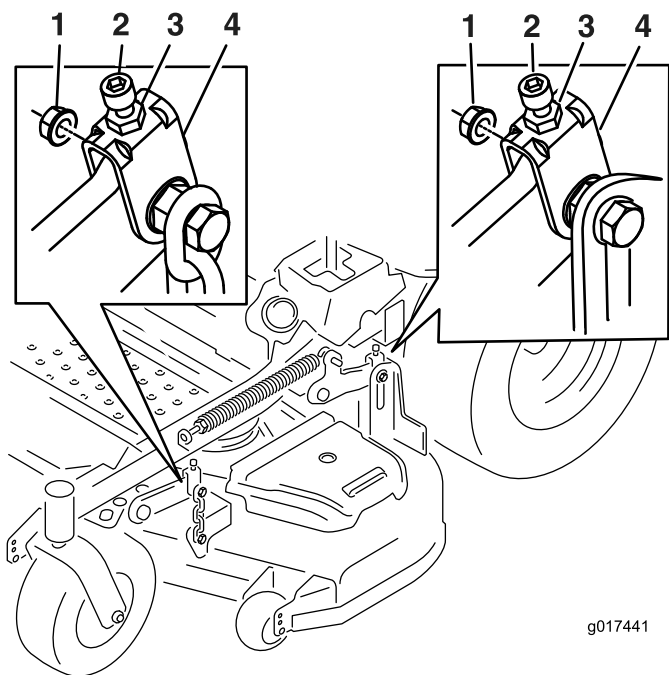

Figure 73
10. If needed, loosen the whizlock nut on the side of the yoke and the jam nut on top. Fine tune the screw adjuster by turning it to get 3 inch (7.6 mm) height (see Figure 73).
- Fine tune the screw adjuster by turning it to get 3-1/4 inches (8.3 mm) height (Figure 73).